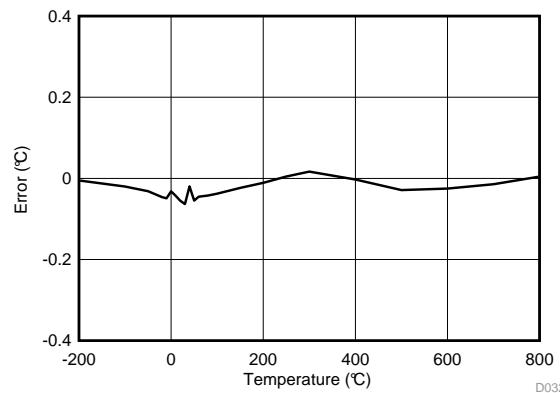

図 61. RTD Error Measurement
4. Connect the resistor network to the terminal inputs using the 3-wire connection and perform the actual measurement. The updated temperature point was taken into account to obtain the error shown in 図 61.